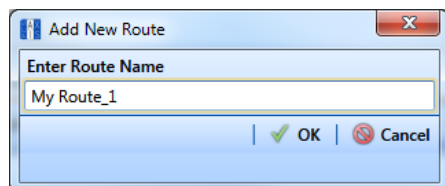

Figure 7-7. Add New Route
- 3 If this is the first route to be created, the *Add New Route* dialog box opens. Type a name for the new route in the field **Enter Route Name**. Then click  **OK** (Figure 7-7).